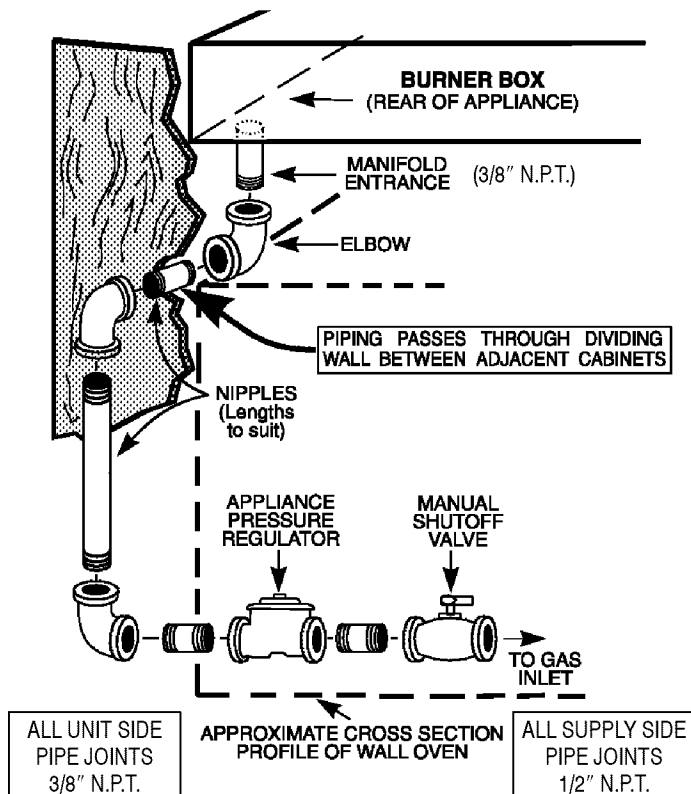

FIGURE 4
Note, regarding Figure 4, above:
- For convenience in service a union (not shown: locally available) should be included in the piping illustrated in figure 4, in a location most practical for the installation. Generally, a practical location is in the cabinet below this appliance, near the manifold entrance, rather than in an adjoining cabinet.
If the outlet is to be mounted in either a left or right adjacent cabinet, a clearance hole, as described above, must be provided in the dividing wall between the cabinets. Figure 4; page 5, illustrates a typical (left side) dividing wall. The clearance hole (not shown in figure 4)